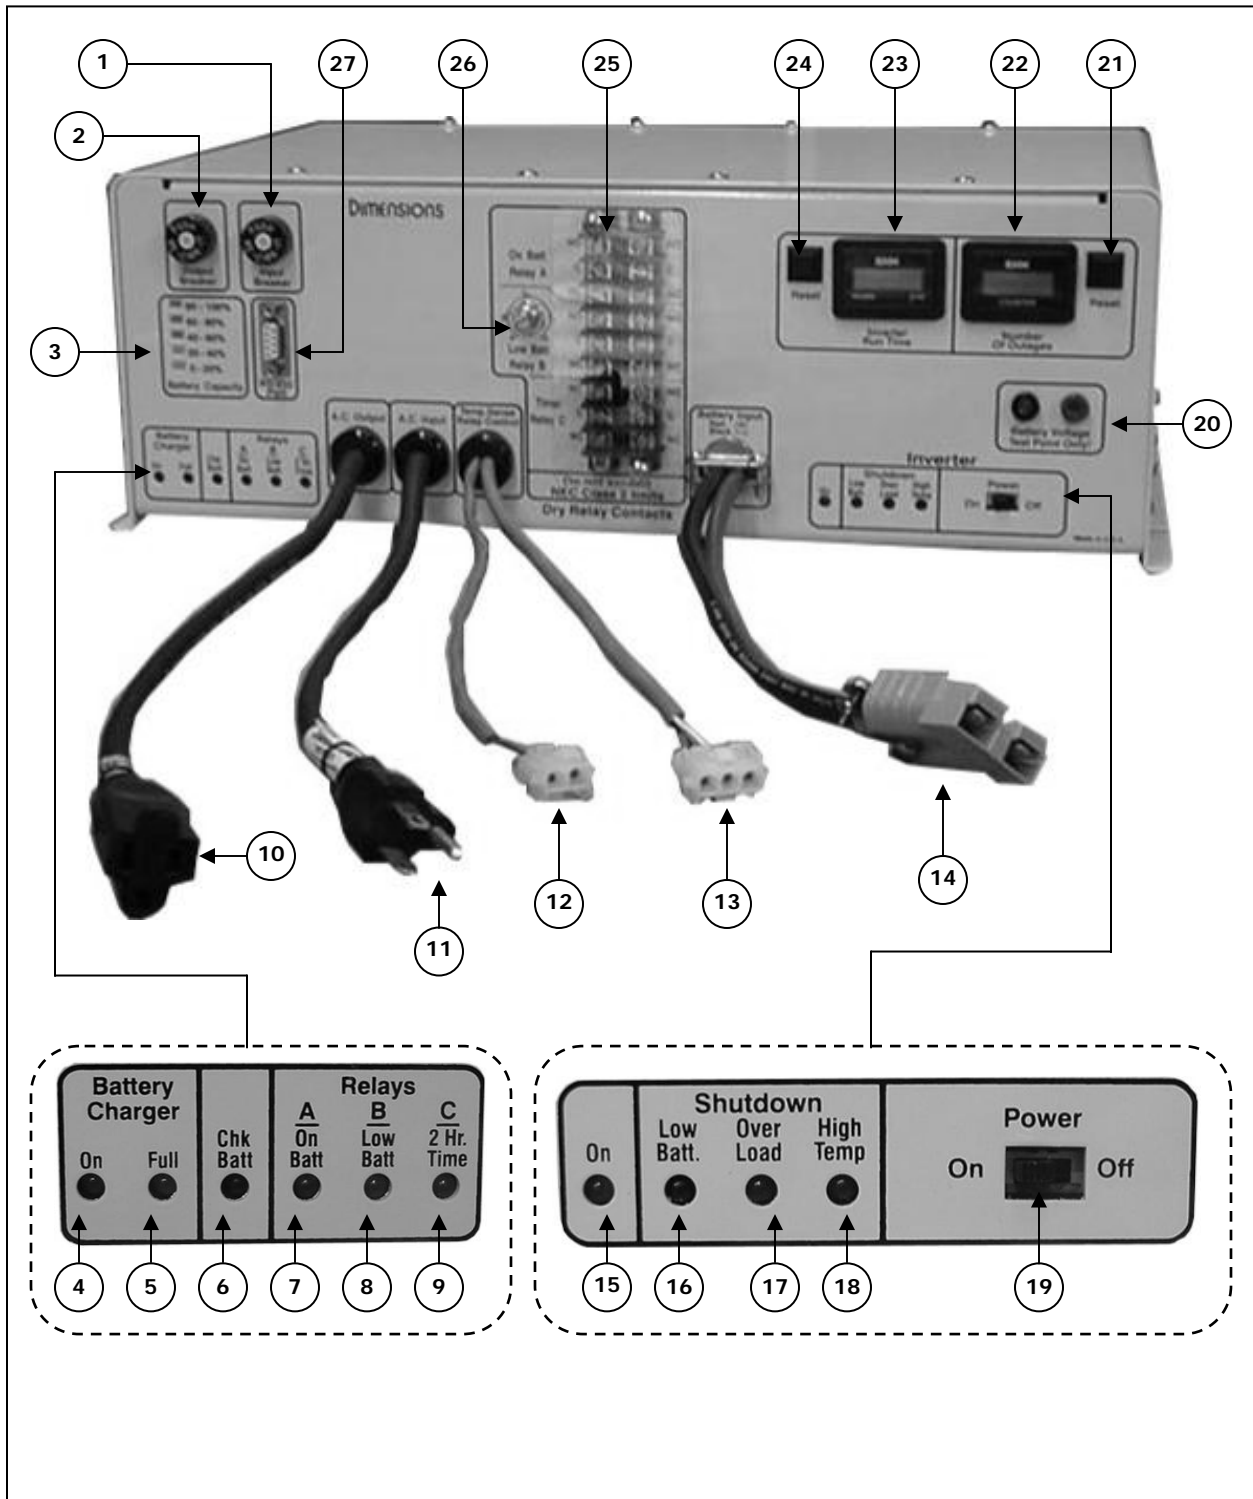

FIGURE 1: BBS Module physical description front and rear view
- (28) **Bypass – BBS mode Switch (MBPS):** Used to isolate the BBS system from external AC power during routine maintenance.
- (29) **Terminal Connector Board (MBPS):** AC Wiring connector board
- (30) **Terminal Connector Board (30ATR):** AC Wiring connector board
- (31) **Transfer Relay Connector (30ATR):** Connects to item (12) on Figure 1, page 8 to drive the 30-amp relay.
- (32) **A.C. Input Plug Cord (30ATR):** Connects to item (10) on Figure 1, page 8
- (33) **A.C. Output Outlet Cord (30ATR):** Connects to item (11) on Figure 1, page 8
- (34) **AC Outlet Cord:** Connects to item (11) on Figure 1, page 8
- (35) **Indicator Light:** Lights to indicate the switch is in the bypass mode.
- (36) **Terminal Connector Board:** AC Wiring connector board
- (37) **Transfer Relay Connector (30ATR):** Connects to item (12) on Figure 1, page 8 to drive the 30-amp relay.
- (38) **Bypass Switch:** Used to isolate the BBS system from external AC power during routine maintenance.
- (39) **AC Input Plug Cord:** Connects to item (10) on Figure 1, page 8